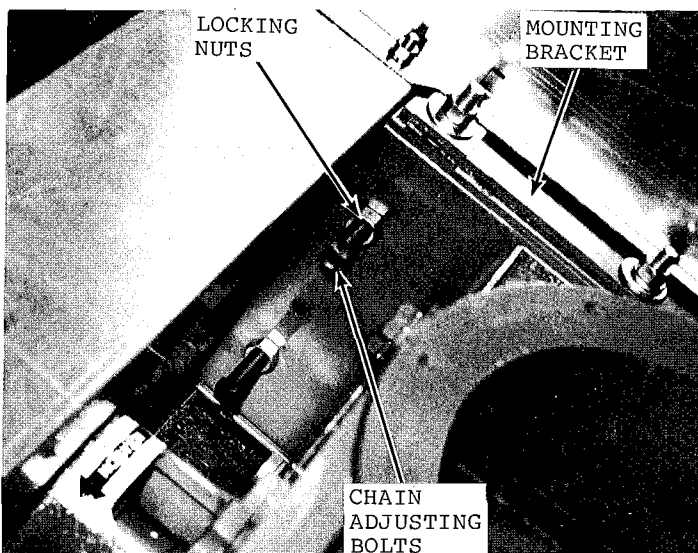

FIG. 23 - AIRLOCK CHAIN ADJUSTMENT BOLTS
- B. To adjust chain tightness (Fig. 23) - Slightly loosen the drive assembly mounting bracket bolts and the locking nuts on both chain adjusting bolts. Turn both chain adjusting bolts evenly to obtain correct chain "slack", then lock in position with locking nuts. Tighten all drive assembly mounting bracket bolts securely.